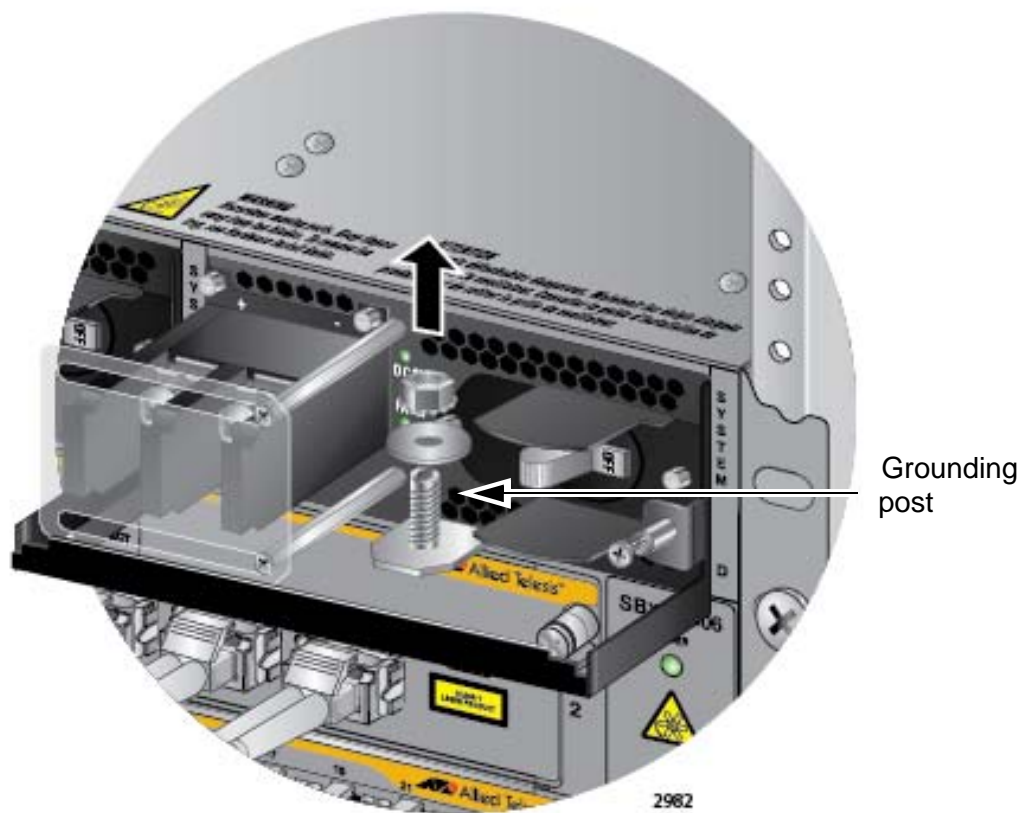

Figure 126. Removing the Nut and Washer from the Grounding Post
3. Use an 8 mm wrench to remove the grounding post nut and washer, shown in Figure 126, from the power supply.
2. Use an 8 mm wrench to remove the grounding post nut and washer, shown in Figure 126 on page 204, from the grounding post on the power supply.